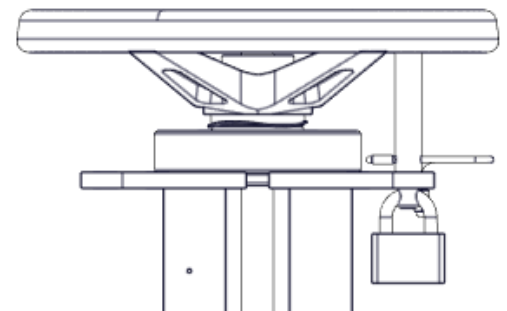

Figure 2—Locked Position
3. Set and lock the pin in the leg fab by inserting a customer-supplied pad lock or other device into the bottom hole in the lockout. See Figure 2.